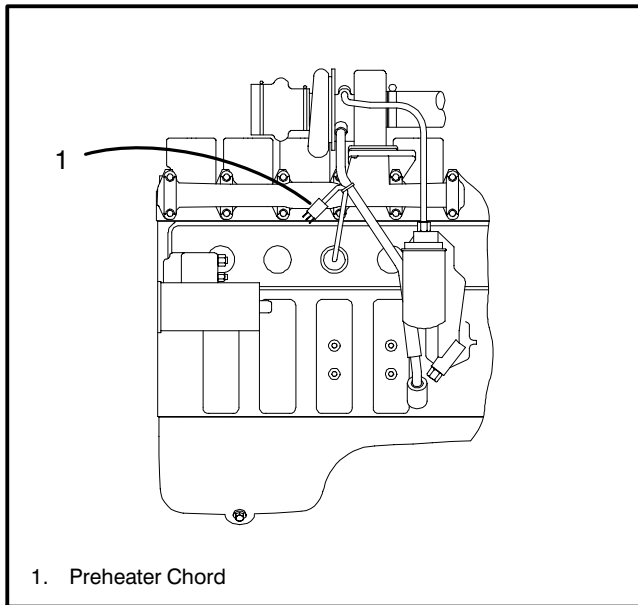

Figure 1–72
To jump start using a 12V power source, two (2) jumper cables are required. Refer to Figure 1–67.
1. Inspect the convertor for blown fuses and replace if necessary. Refer to Figure 1–68.
The propane engine block preheater burns propane gas to heat the coolant and circulate it through the engine. The propane engine block preheater control panel is located at the back of the crane just behind the radiator grille. Refer to Figure 1–70.
The propane fuel tank for this system is located on the left side of the crane just ahead of the diesel fuel tank. Two shutoff valves for the purpose of blocking the coolant from circulating through the preheater are located on the engine at the preheater intake and output hoses. Each optional crane engine has a slightly different location for these valves but their purpose remains the same. Refer to Figure 1–71.
The electric engine block preheater uses electrical power to heat the coolant and circulate it through the engine. The electric engine block preheater power chord is located on the left side of the engine. Refer to Figure 1–72.
A hydraulic cab heater may be used to heat the upper cab. The heater is located behind the operator's seat and the control switch is located on the left side of the rated capacity limiter panel. Refer to Figure 1–75. The hydraulic reservoir for the system is mounted on the left side of the upper revolving frame just behind the operator's cab.
The operator's cab may be equipped with an air conditioning unit. Use the following instructions to operate the unit. Refer to Figure 1–76.